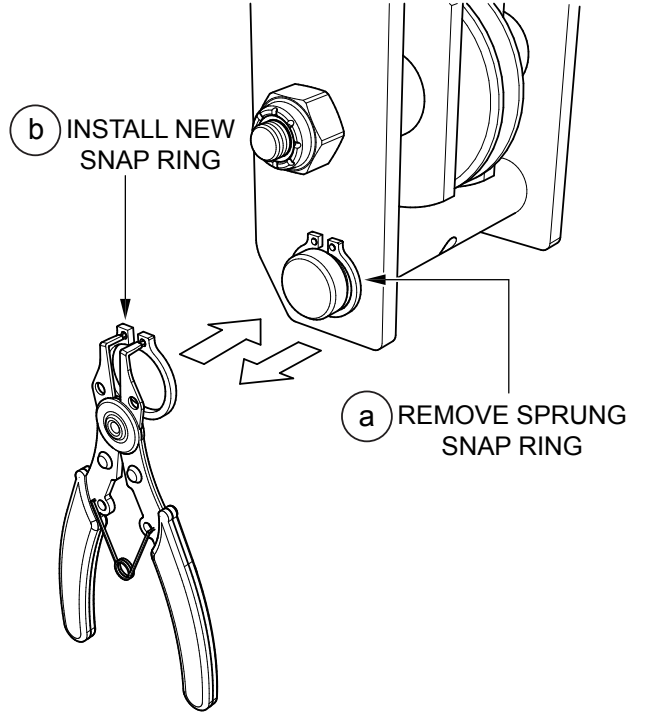

Figure 2. Installation of Snap Rings
- a. Remove the snap ring with a snap ring tool. See Figure 2.
- b. Install new snap ring carefully with the snap ring tool. Ensure snap ring has seated completely within groove of pin. See Figure 2.